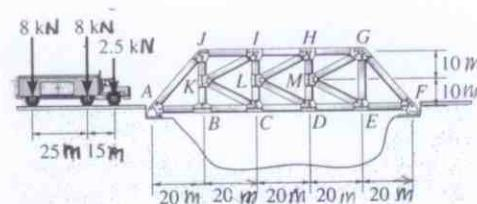

Fig. 4
**Problem 4:** Draw the influence line for the force in member IH of the bridge truss. Determine the maximum live force (tension or compression) that can be developed in this member due to a 18.5 kN truck having the wheel loads shown. Assume the truck can travel in *either direction* along the centre of the deck, so that the *half* the load shown is transferred to each of the two side trusses. Also assume the members are pin connected at the gusset plates (Fig.4).